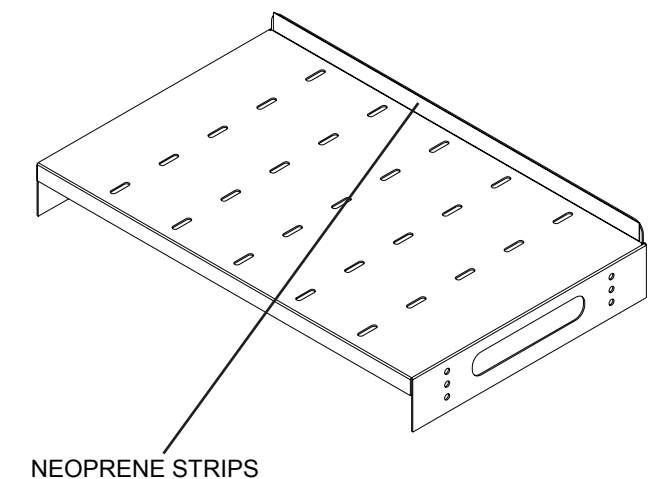

Figure 7.3c – Bottom Shelf
- Bottom Shelf: back lip of shelf, see Figure 7.3c.